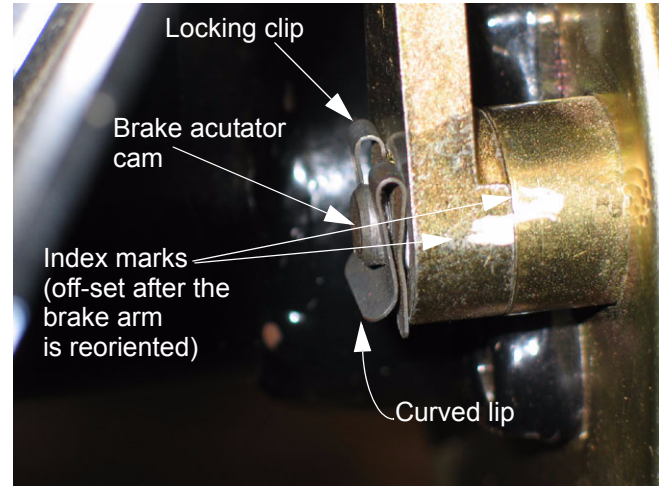

Figure 2.7
- 2.7. Slide the brake arm off of the splined end of the brake actuator cam. See Figure 2.7.